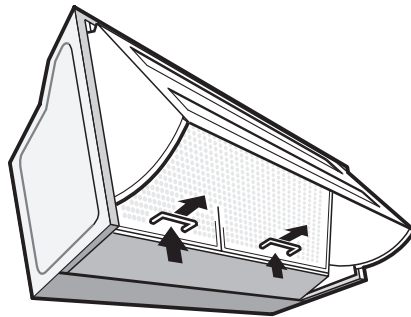

Fig. 6
- To remove the grease filters, first pull the handles upwards, then extract the filter outwards. **Fig. 6.**